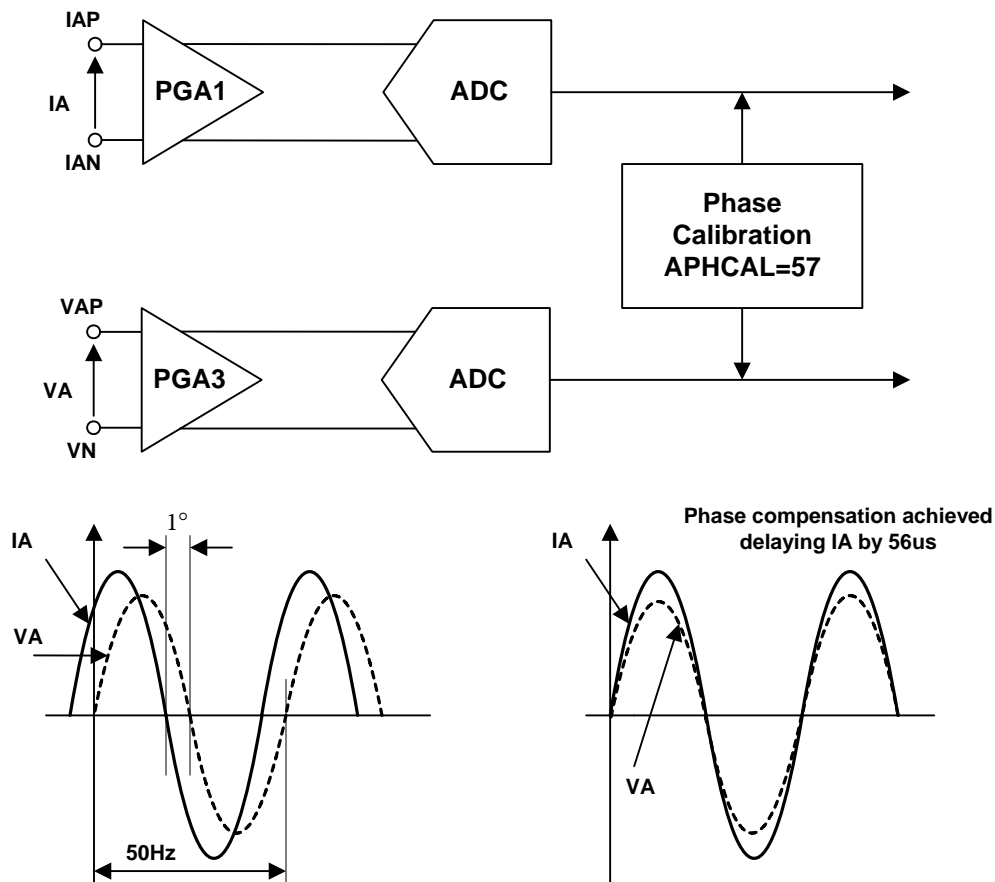

Figure 38. Phase Calibration on Voltage Channels
Figure 38 illustrates how the phase compensation is used to remove x=-1° phase lead in IA of the current channel from the external current transducer (equivalent of 55.5μs for 50Hz systems). To cancel the lead (1°) in the current channel of Phase A, a phase lead must be introduced into the corresponding voltage channel. Using expression (3), APHCAL is 57, rounded up from 56.8. The phase lead is achieved by introducing a time delay of 55.73 μs into the phase A current.